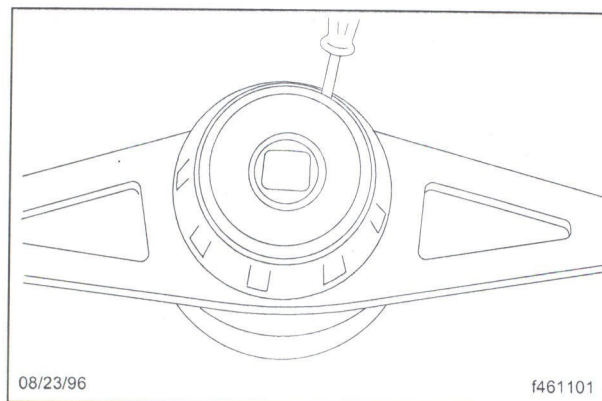

Fig. 1, Prying out the Horn Button
5. Use a small screwdriver to pry under the edge of the horn button, progressing from your start point around the circumference to keep the button from becoming excessively crooked in the horn holder. See **Fig. 1**. Lift the horn button from the steering wheel assembly.